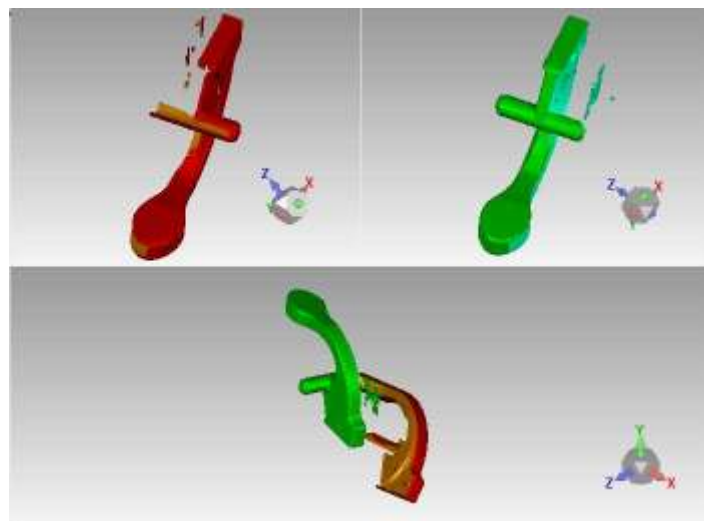

Figure 33
- **Rotate** each of the scans to the positions shown in **Figure 33**.